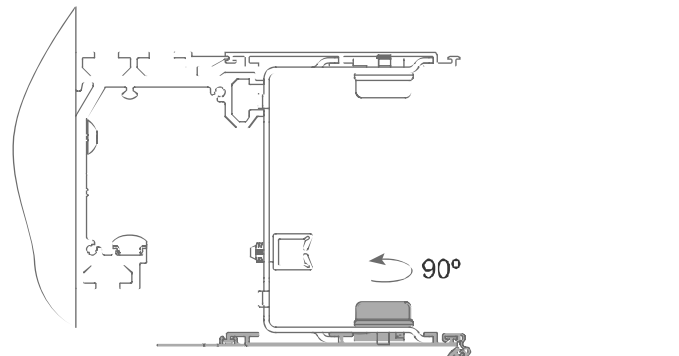

Fig. 12.2
- Release the bracket attachments for the bottom cover. **Fig. 12.2**